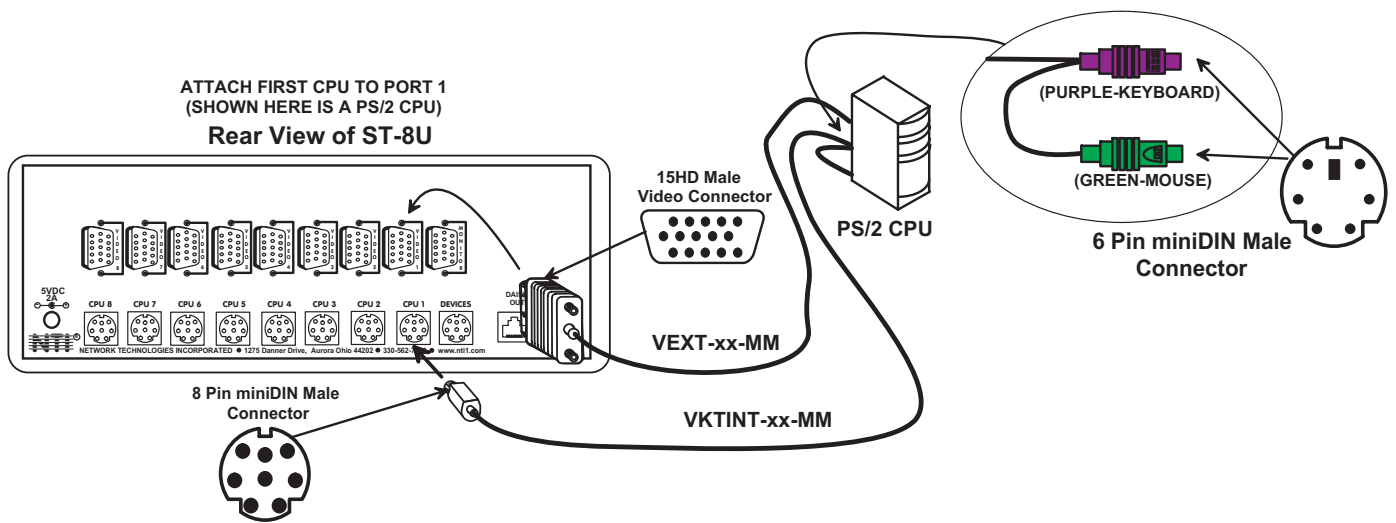

Figure 8- Connect a PS/2 CPU
•**PS/2 CPU-** Connect a PS/2 CPU video port using a VEXT-xx-MM cable between a VIDEO x port on the ST-xU and the CPU. Connect the PS/2 CPU keyboard and mouse ports using a VKTINT-xx-MM cable between a CPU-x port on the ST-xU and the CPU. (See Fig.8.)